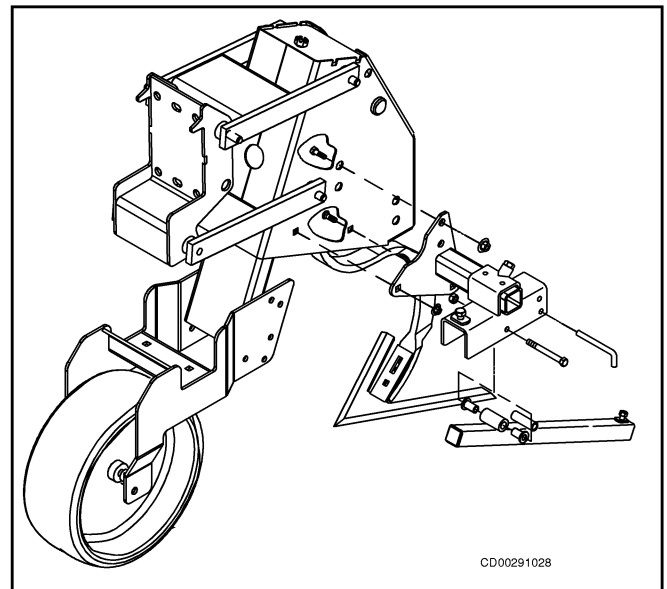

Figure 39 Row Unit Mounted Rolling Shield
1. Fasten mounting tubes to each side of row unit, using one 5/8 x 1-1/4 hex bolt and two 1/2 x 1 carriage bolts per side as shown in Figure 39.